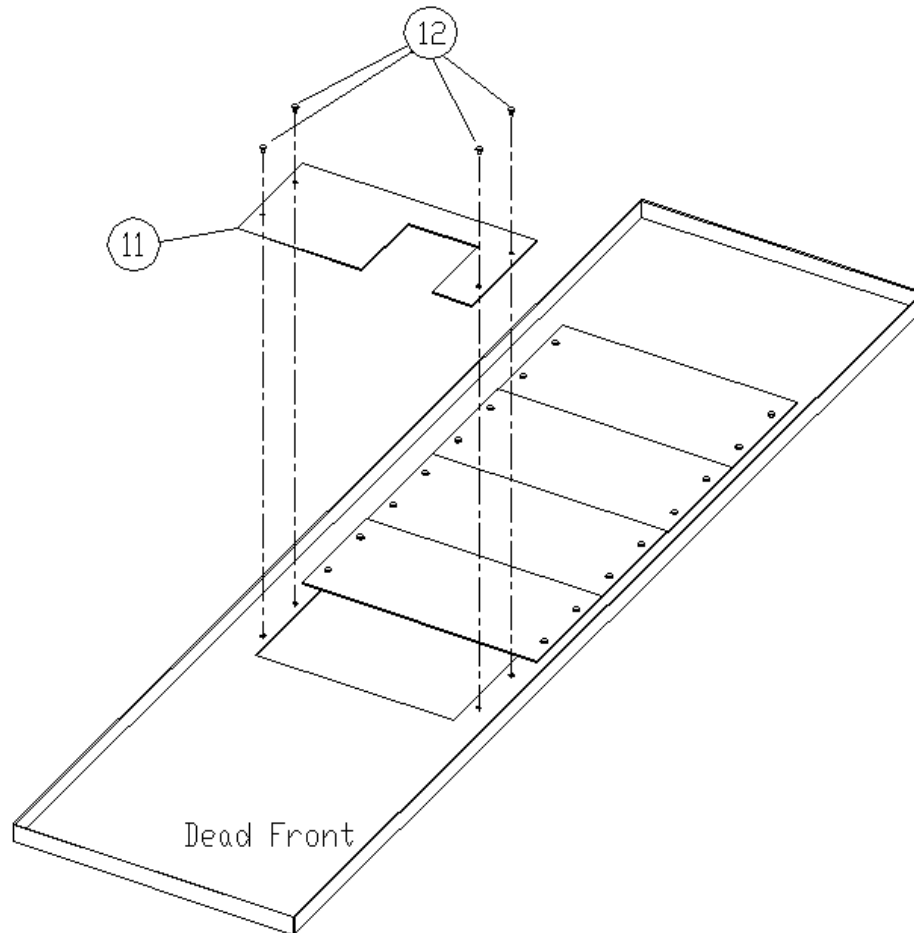

Figure 4. Attaching the shield insert to the shield for SF breaker installation in A-Series® II panelboards.
11. To install branch breaker (kit ASPP6SF3S) on left side of interior, place the filler plate [11] over the dead front so that the four same-size holes line up with the threaded holes of the dead front, as illustrated in Figure 4. Fasten filler plate to the dead front with four #10-32 x $\frac{3}{8}$ screws [12] tightened to 27-36 in-lb.